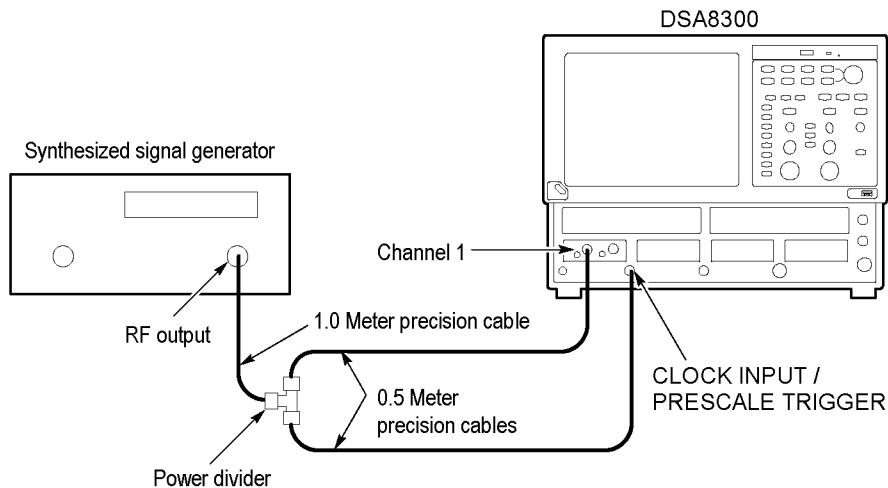

Figure 15: External Clock/Prescale trigger delay jitter test setup
2. Connect the test equipment (See Figure 15.)